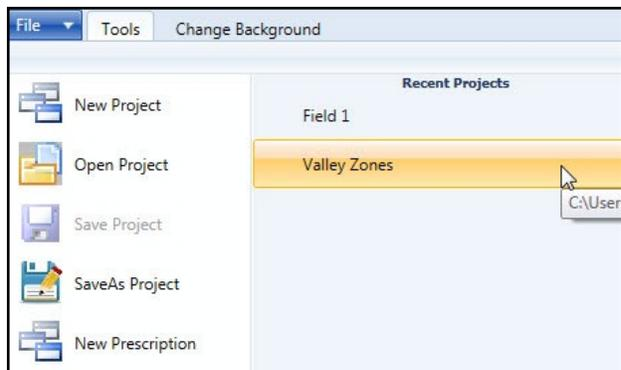

Figure 28-1 Open Recent Project
1. Locate the project in the **Recent Projects** list, and click on its name to open it. See Figure 28-1.